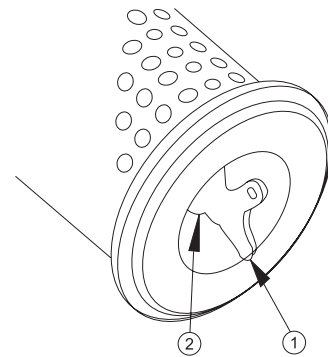

Figure 4-38
- When the sealing gasket (2) or the butterfly-shaped nut (1) is damaged, they should be replaced. (Figure 4-38)